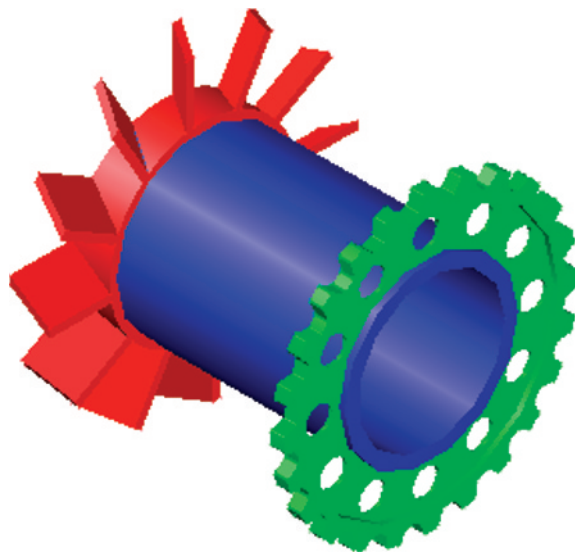

Fig. 16.30 First example – printing a single copy
First example – printing a single copy (Fig. 16.30)
3. *Click* the **Preview** button of the dialog and if the preview is OK, *right-click* and in the *right-click* menu which appears, *click* **Plot**. The drawing plots producing the necessary ‘hardcopy’ (Fig. 16.30).